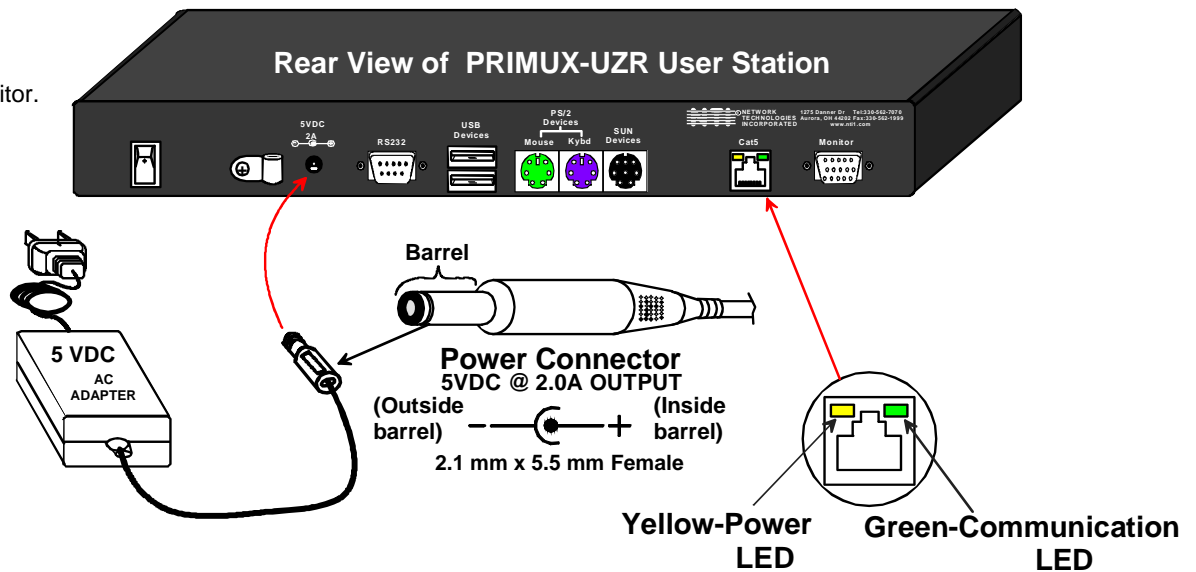

Figure 13- Connect the AC adapter to the User Station
1. Connect the AC adapter power connector to the 5VDC port on the User Station (see Figure 13). Plug the AC adapter into a power outlet and press the power switch to turn the User Station ON. The yellow LED on the RJ45 connector of the User Station should illuminate, indicating that a proper power connection has been made to it.
**FYI:** The green LED on each RJ45 connector will illuminate anytime data traffic is passing between the Host Adapter and User Station, indicating proper CAT5 cable connection and communication. (See Figure 13)